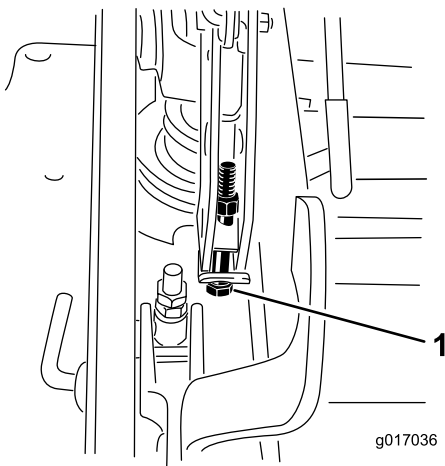

**Figure 92**
12. To adjust the single point system, loosen the two bolts at the bottom of the height of cut plate. Refer to Figure 92.
14. Tighten the two bolts at the bottom of the height of cut plate (Figure 92). Torque to 37-45 N-m (27-33 ft-lb).